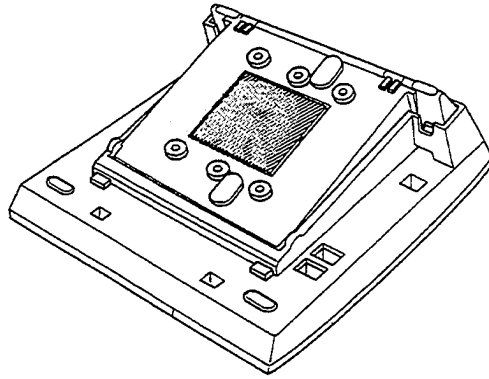

Figure 4-21 Removing the Knockout
2. Remove the knockout on the base unit with nippers. In Figure 4-21 Removing the Knockout, the shaded area indicates the knockout.